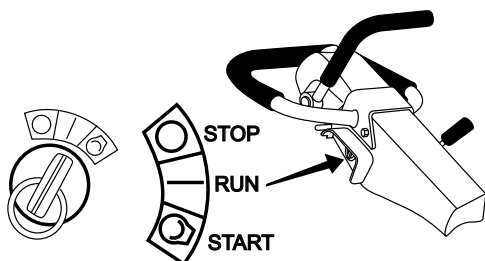

Figure 14. Starter Switch (Option)
5. Insert the ignition key into the ignition switch and turn it to the **RUN** position (Figure 14). The buzzer should sound at this time.